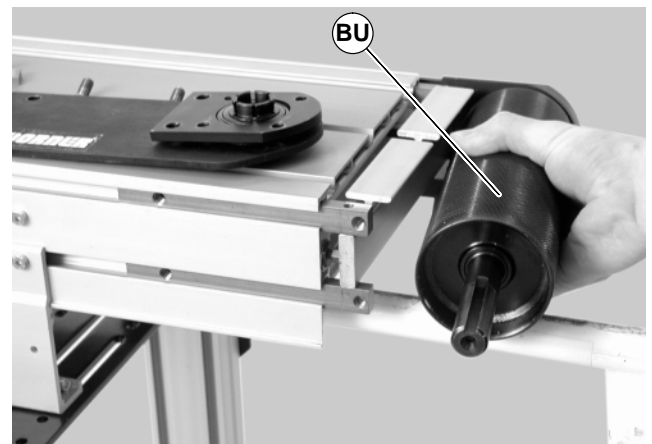

Figure 53
8. Slide the drive pulley (BU of Figure 53) out of the headplate on the opposite side.